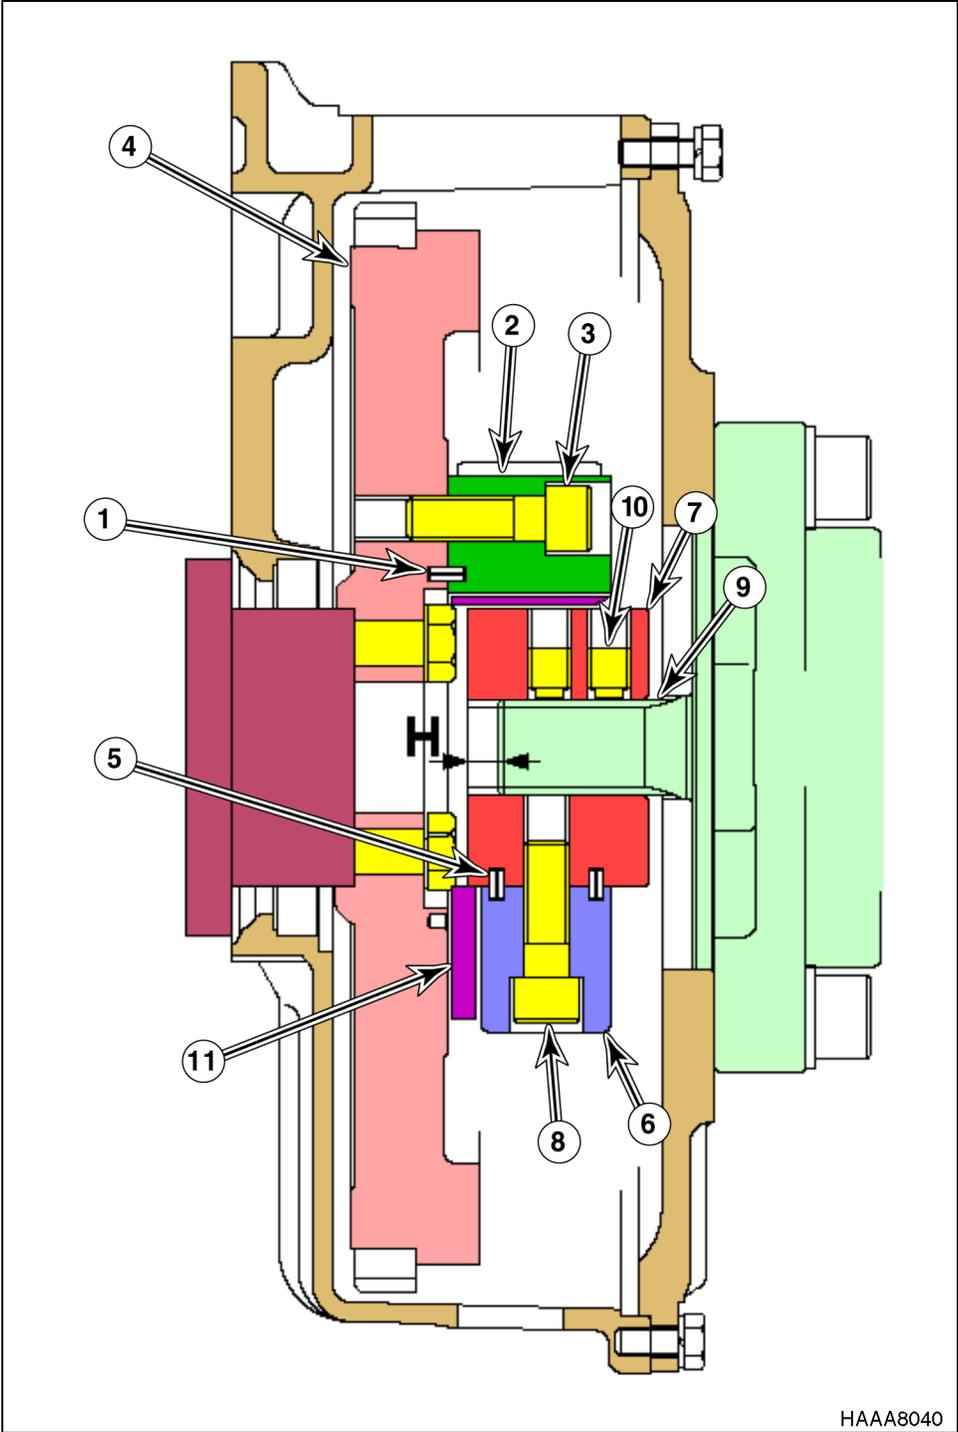

Figure 5 DRIVE COUPLING INSTALLATION
This tool is used to control the distance between the end of the pump drive shaft and the front face of the drive coupling hub (Figure 3 and Figure 5). This distance will be referred to as "Measurement H" in the installation instructions that follow.
Table 1 Parts Information and Torque for Figure 5
Table 2 Specification for "Measurement H" and Torque (Refer to Figure 5)
**NOTE:** Refer to Figure 5 while using following procedure.
1. Install spring pin (1) and attach insert (2) with bolt (3) to engine flywheel (4).
2. Install two spring pins (5) and attach insert (6) to hub (7) bolts (8).